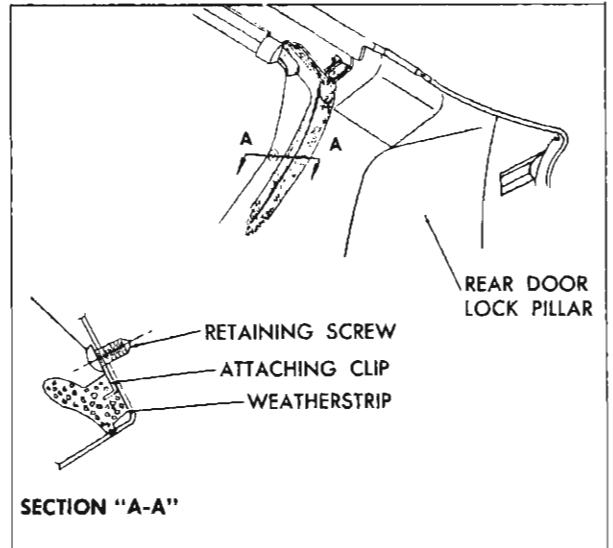

Fig. 33—Rear Door Weatherstrip Attaching Clip Screw
2. On "39" style rear doors, remove the single weatherstrip attaching clip screw located at upper radius of lock pillar (fig. 33).